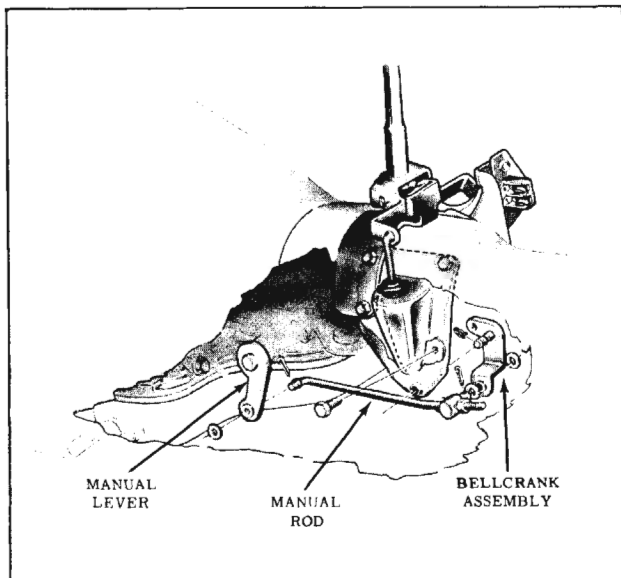

Fig. 13-113 Exploded View of Shift Linkage
4. Lock the adjustment by tightening the rear nut. (Fig. 13-113)